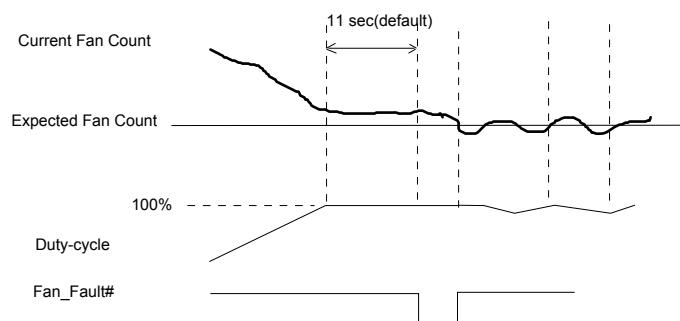

Fig 6-16
(1). When PWM_Duty reaches 0xFF, the fan speed count can't reach the fan expected count on time. (Figure 6-16)